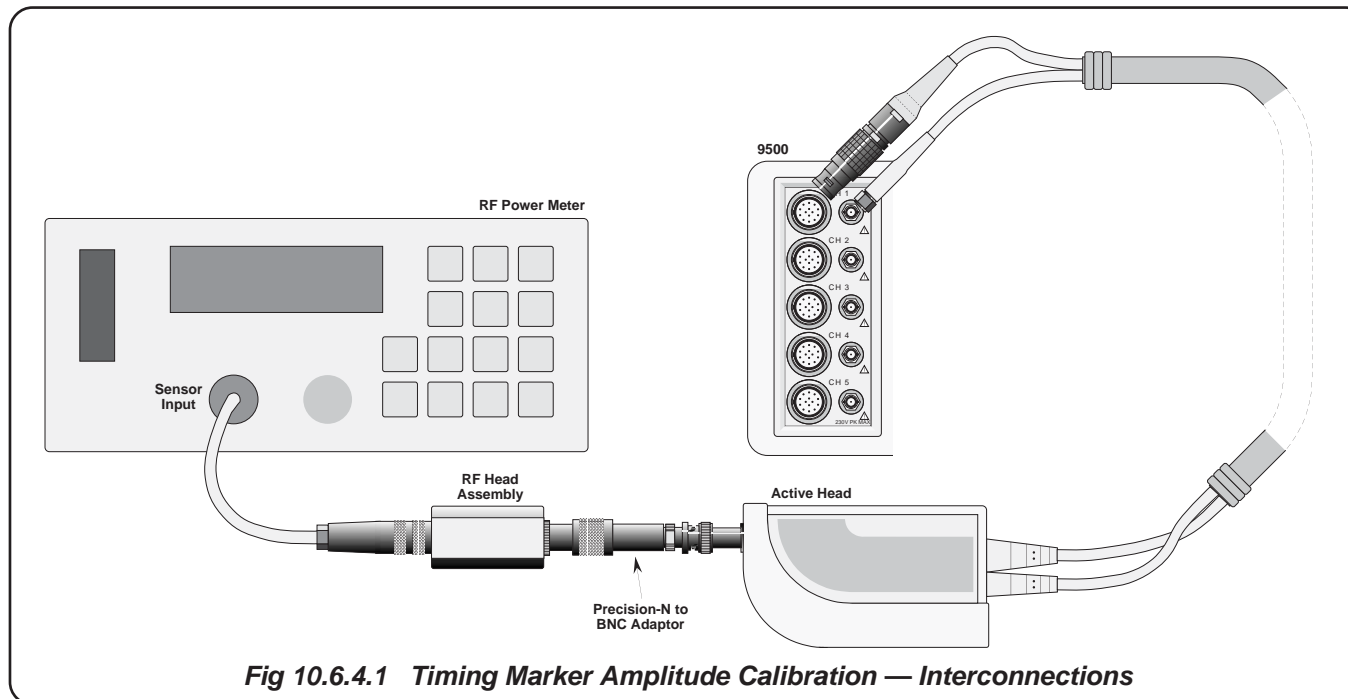

Fig 10.6.4.1 Timing Marker Amplitude Calibration — Interconnections
1. Ensure that the 9500B is connected to the Power Meter as shown in *figure 10.6.4.1*, satisfies the equipment requirements in *para 10.6.2.2*, and that both instruments are powered on and warmed up.